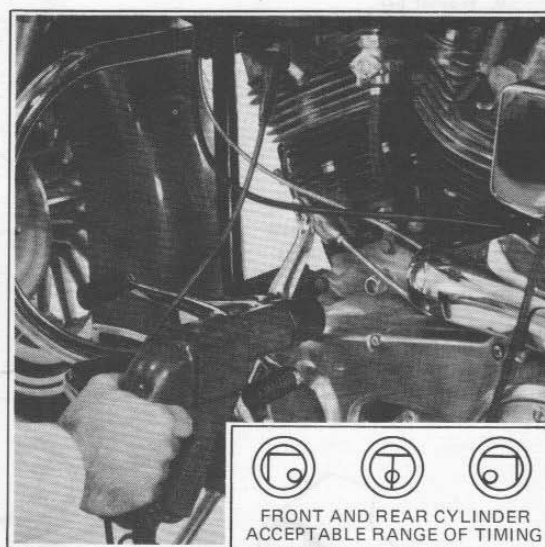

Figure 5-20. Checking Timing with a Strobe Light
Use a strobe flash timing light (timing gun) to view advanced timing (7) on flywheel through accessory plastic view plug, Part No. 96295-65, screwed into timing inspection hole (9). Make sure view plug does not touch flywheels. Timing light leads should be connected to the front spark plug, ground and battery positive terminal. Start engine and set engine speed at 2000 rpm. Light will flash each time spark occurs (see figure 5-20). Loosen timer plate screws (5) just enough so that plate (4) can be shifted using a screwdriver in notch (6) as light aimed into inspection hole (9) stops timing mark (7) in center of hole. Timing will retard 30° automatically when engine is at idle speed or is stopped.
Rear cylinder advance timing mark is a single large drilled dot which should appear on or near the front cylinder advance timing mark while viewing with timing light. See figure 5-20.